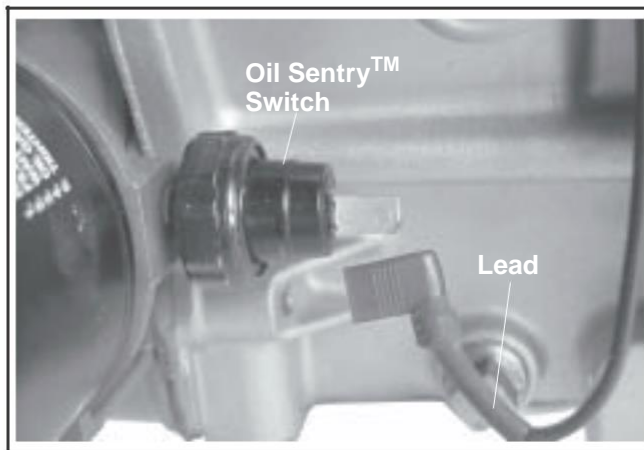

Figure 9-21. Removing Oil Sentry™ Switch.
2. Remove Oil Sentry™ switch from the oil filter adapter or adapter section of closure plate. See Figure 9-21.